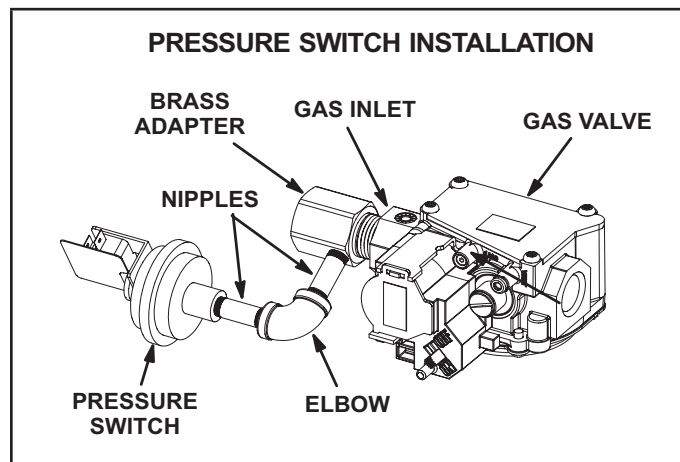

Figure 3
- 12 - Install pressure switch components as shown in figure 3. In order to close the door panel, orient the pressure switch lower than the gas valve. See figure 4.